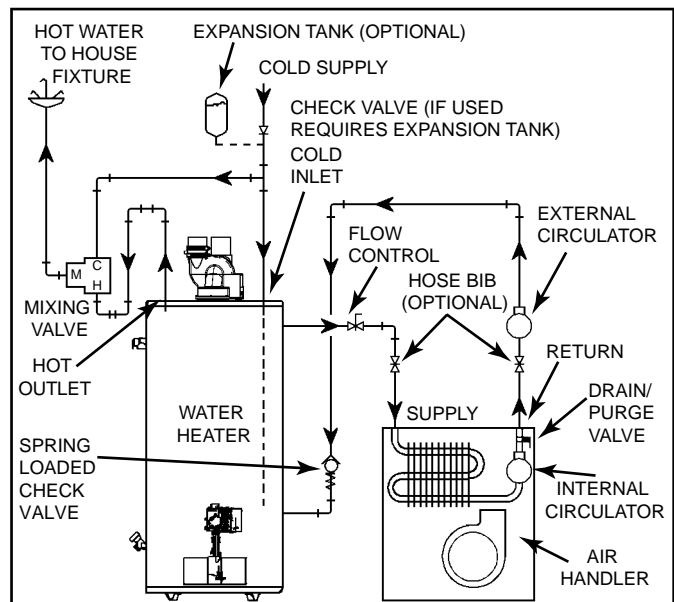
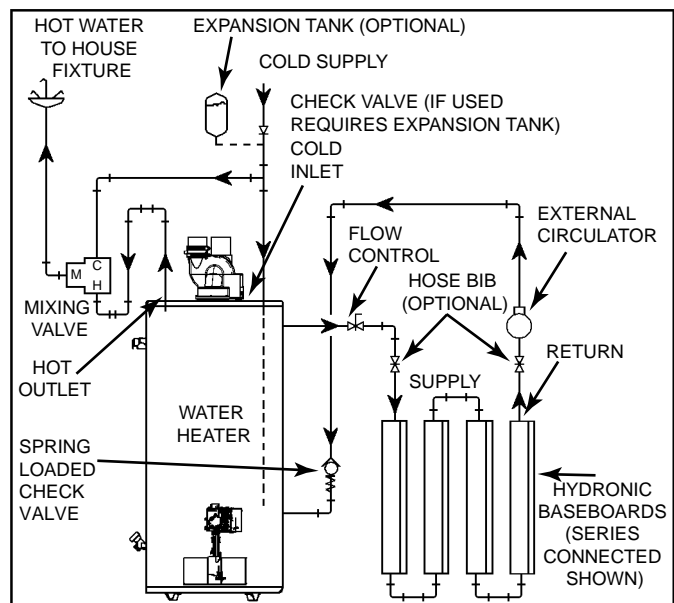

Figure 15.
Figure 16.
8. “Combo” Heating Systems require higher water temperatures than other applications. When the system is used to supply water for Combo Heating applications, a means, such as mixing valve, must be installed to temper the water in order to reduce scald hazard potential (see Figure 15 and Figure 16).
- A. A fan coil/air handler (Figure 15).
- B. A hydronic baseboard (finned tube) loop/In floor heating (Figure 16).